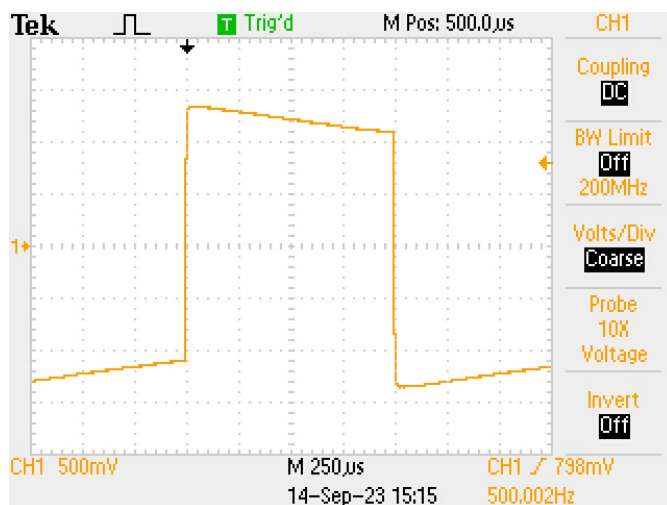

Figure 2.5: Tilt Setup
- Adjust the frequency so the waveform tilt is prominent, $\approx 500_{HZ}$. See Figure 2.5 *Tilt Setup*.